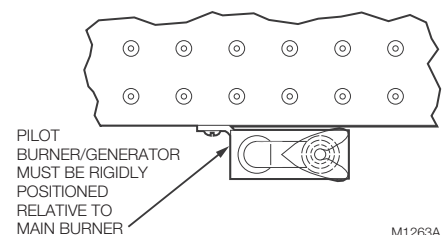

Fig. 1. Mount pilot burner on main burner.
2. Mount pilot burner on main burner. Mounting surfaces other than the main burner can shift, bend, or warp as furnace expands and contracts while operating. See Fig. 1.